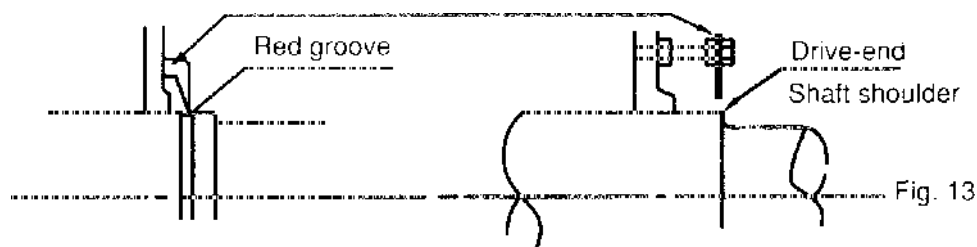

Fig. 13
- (c) The indicator of the shaft endplay should be restricted within the specified range of the red groove of the shaft as shown in Figure 13. Or the ± 0.118 in. (± 3 mm) range of the drive-end shaft shoulder, or the bearing may be damaged.